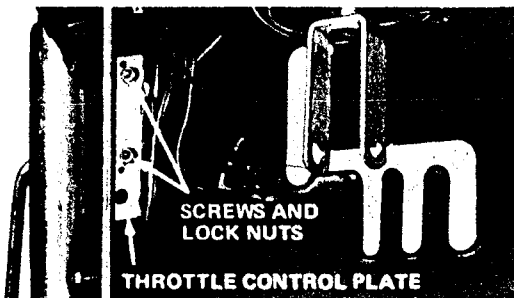

Figure 2
1. From back side, slide throttle control lever through slot in control panel. Next, secure throttle control plate in place with two hex head sems screws and lock nuts (Fig. 2).